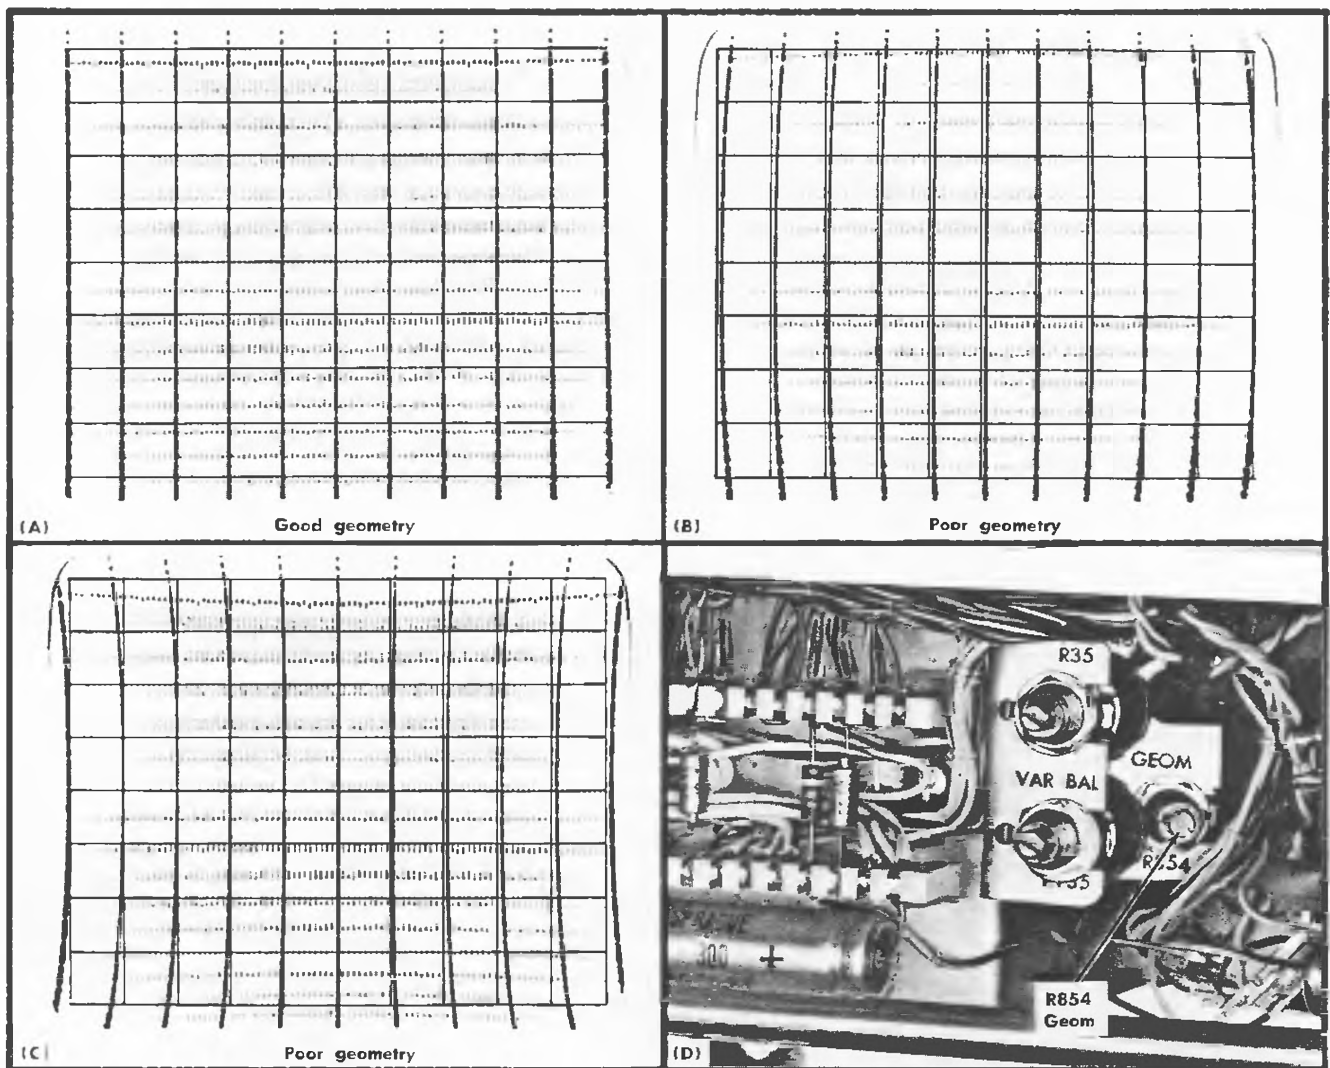

Fig. 6-12. (A) Typical CRT display of good geometry; (B) and (C) poor geometry; (D) location of Geom adjustment (left side).
①
- CHECK**—CRT display for minimum bowing of the markers at the left and right edges of the graticule. Fig. 6-12 shows a typical display of good geometry as well as examples of poor geometry.